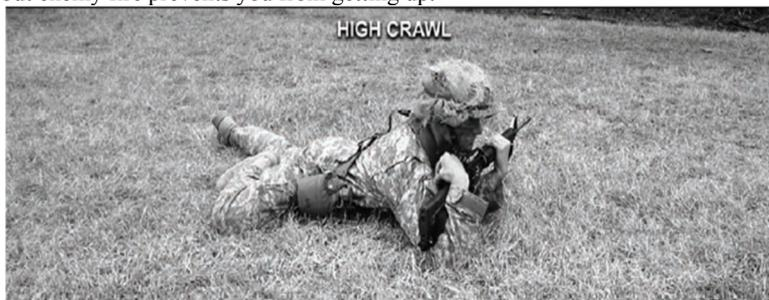

Figure 071-COM-1502-1. High Crawl.
a. Move using the high crawl technique (figure 071-COM-1502-1).